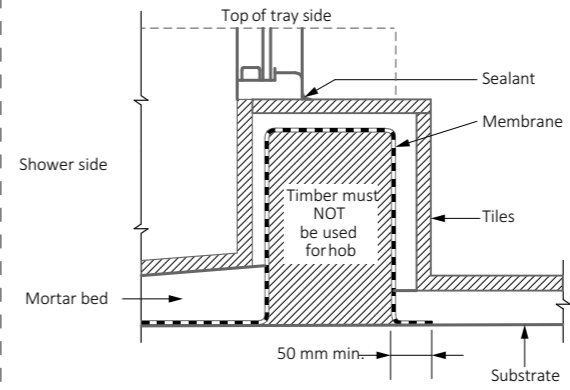

FIGURE: 10.2.16 TYP HOB CONSTRUCTION
- (1) HOB MUST BE CONSTRUCTED OF-
- d. EXTRUDED POLYURETHANE FOAM, IN ACCORDANCE WITH FIGURE 10.2.16.
- (2) ALL GAPS, JOINTS AND INTERSECTIONS OF THE HOB SUBSTRATE MUST BE MADE FLUSH BEFORE APPLICATION OF A MEMBRANE.
- (3) HOB MUST BE ADEQUATELY SECURED TO THE FLOOR AND SEALED AGAINST THE WALL PRIOR TO APPLYING A MEMBRANE.
- (4) TIMBER MUST NOT BE USED FOR HOB CONSTRUCTION.
- WHERE A SHOWER HAS A HOB THE MEMBRANE MUST BE BROUGHT OVER THE TOP OF THE HOB, DOWN THE OUTSIDE FACE AND TERMINATE NOT LESS THAN 50 MM ONTO THE FLOOR (SEE FIGURE 10.2.16).